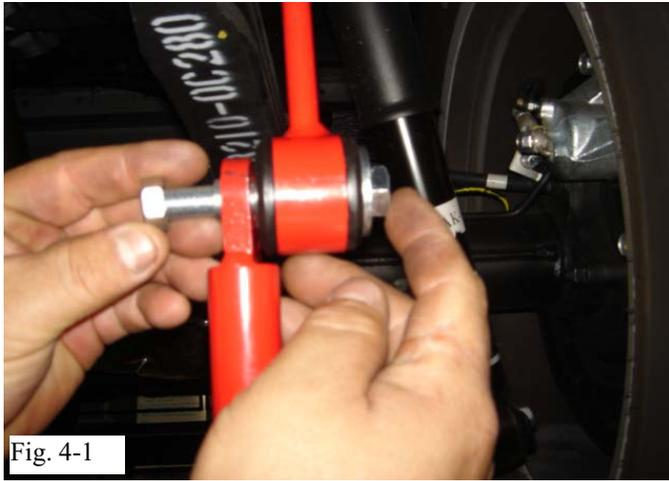
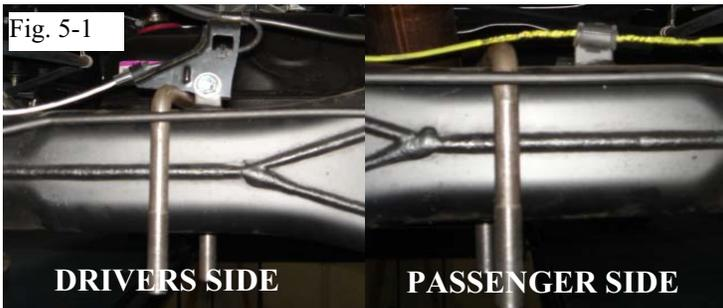
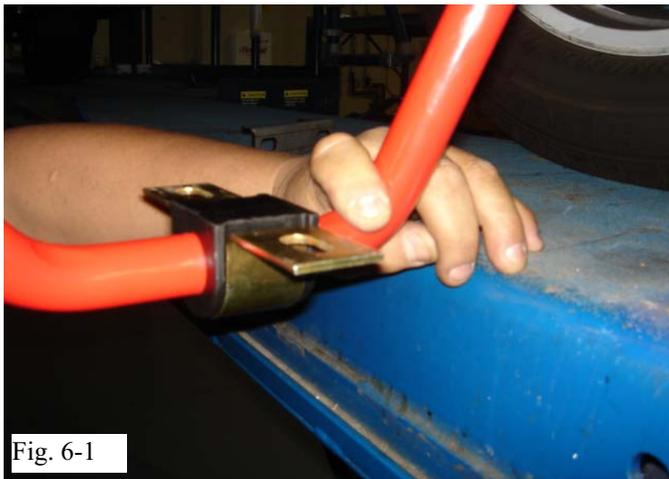

Fig. 4-1
Fig. 5-1
Fig. 6-1
- (a) Starting on either side, mount the RSB onto both End Links using the following hardware configuration: 19mm bolt, washer #1, end link, RSB & 19mm nut - end links are mounted outboard of the RSB. (Fig. 4-1)
(1) Make sure RSB is mounted with the TRD sticker in the upright position.
- (a) Starting on either side, slide both U-Bolts on top of rear axle, so that the threaded studs face down. LHS U-Bolt should be on the outside of brake bracket. RHS U-Bolt should be on the inside of brake bracket. (Fig. 5-1)
(1) NOTE: Ensure that the speed sensor wire and the brake tube do not get clamped between the u-bolt and the axle.
- (c) Slide the bushing brackets over the bushings (Fig. 6-1)